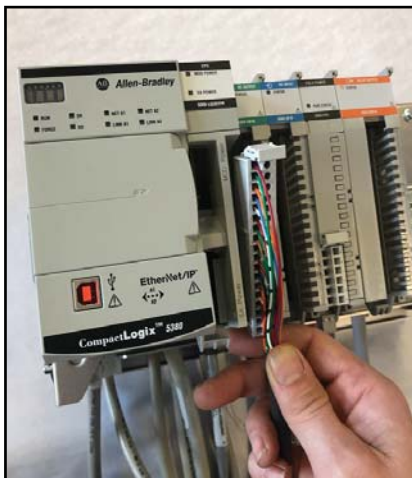

Figure 9a
- a) Place the terminal block end of the conversion module into the corresponding 5069 I/O card. (See Figure 9a)